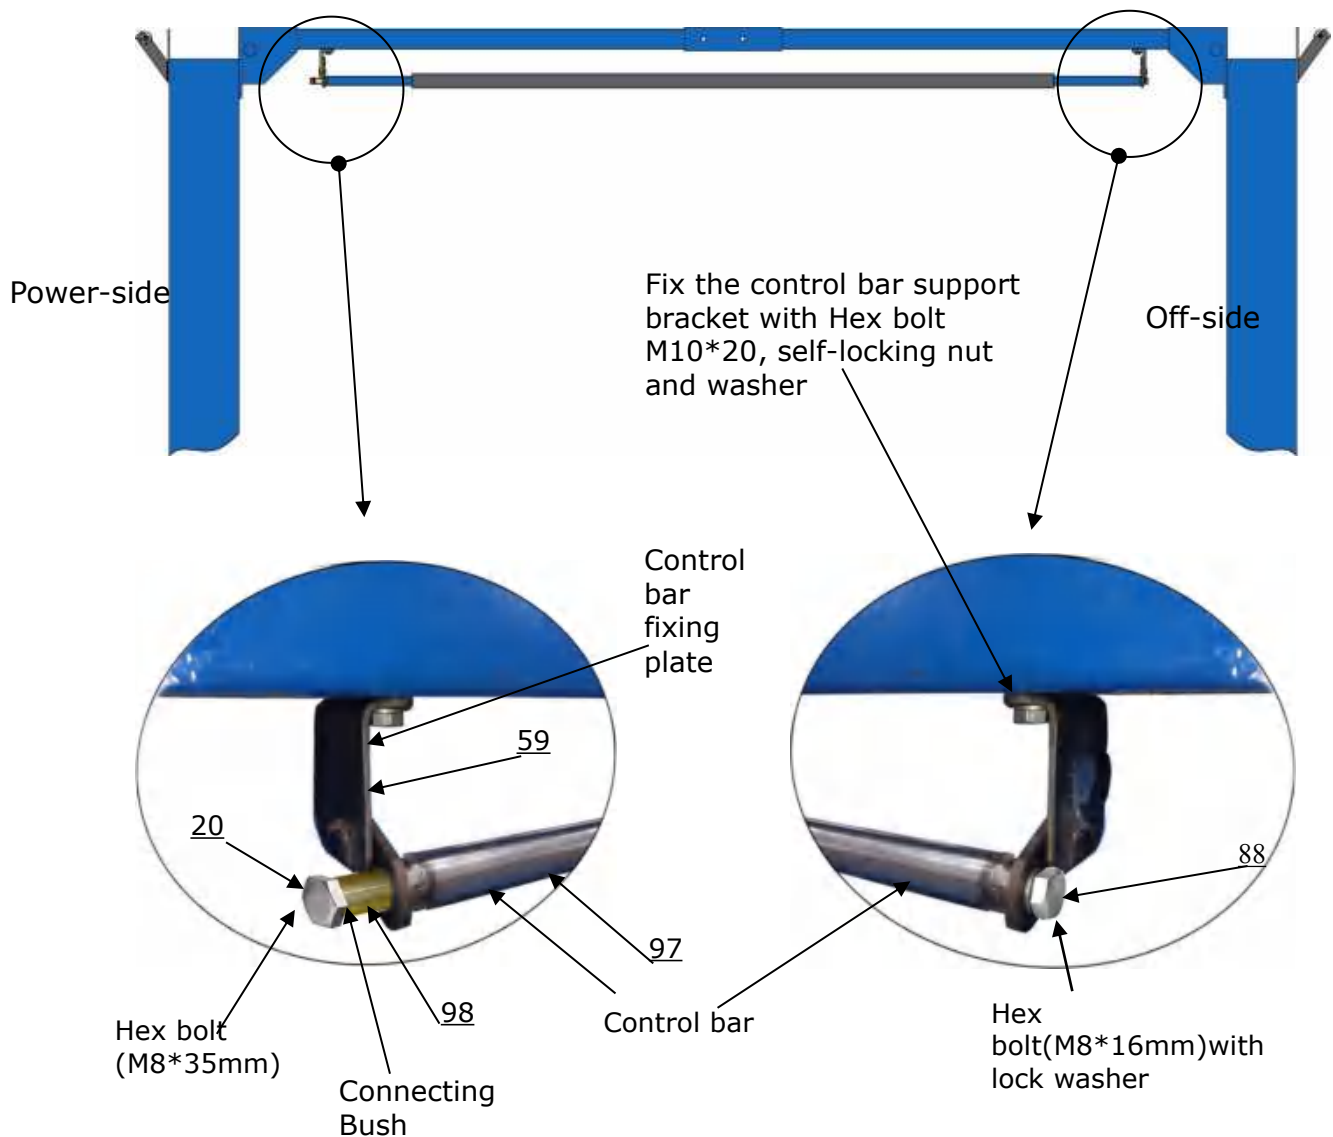

Fig. 23
I. Installing the limit switch control bar and limit switch (See Fig. 23).